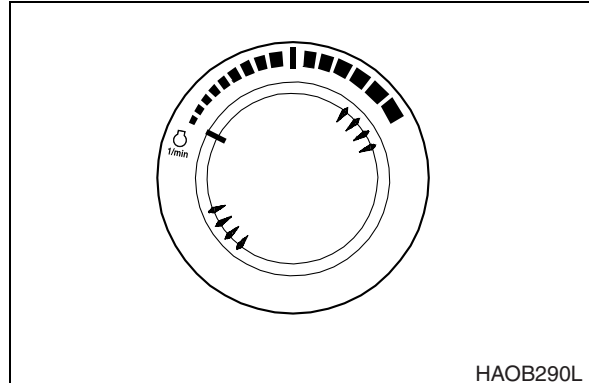

Figure 25
4. Set engine speed control dial to "LOW IDLE" (Figure 25). Allow engine to idle for 3 - 5 minutes.